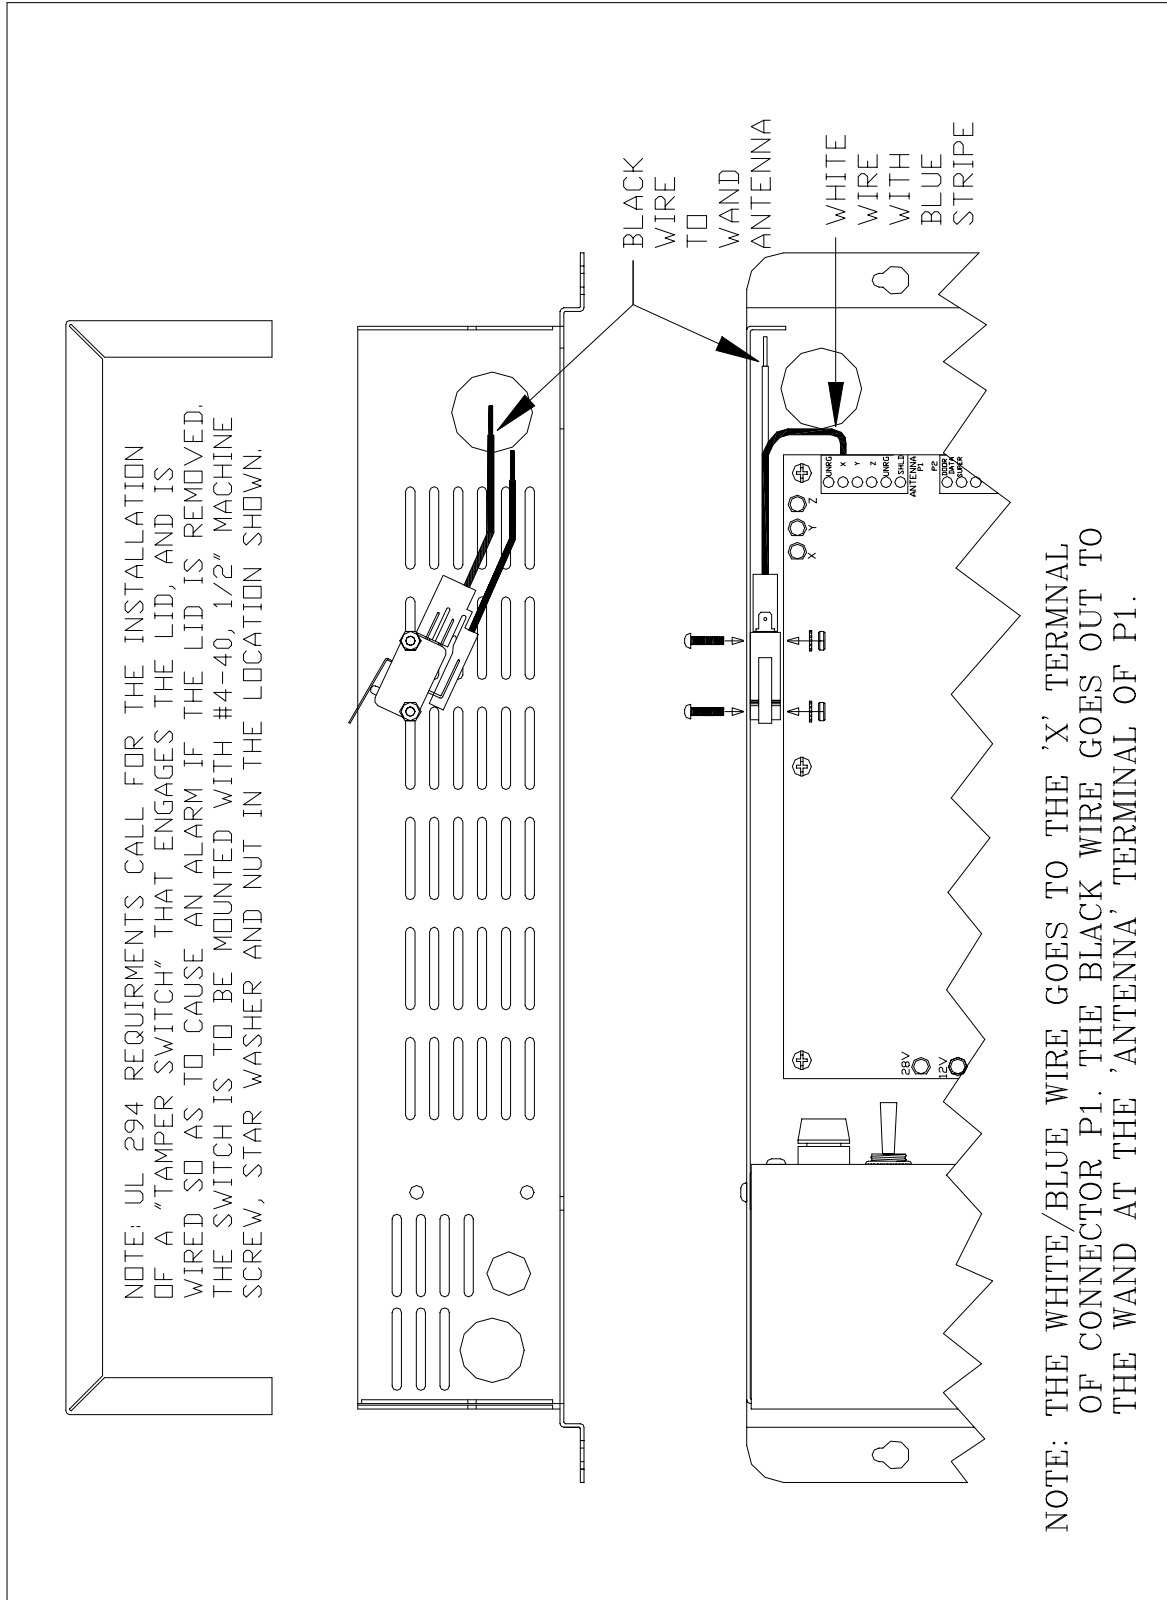

Figure 3.4 Connecting the Tamper Switch
The switch is mounted with #4-40, ½” machine screws, star washer, and nut to the Controller case (Figure 3.4).
2. The **WHITE/BLUE** wire of the tamper switch goes to the “X” terminal of the Controller (P1-2). (Figure 3.4)